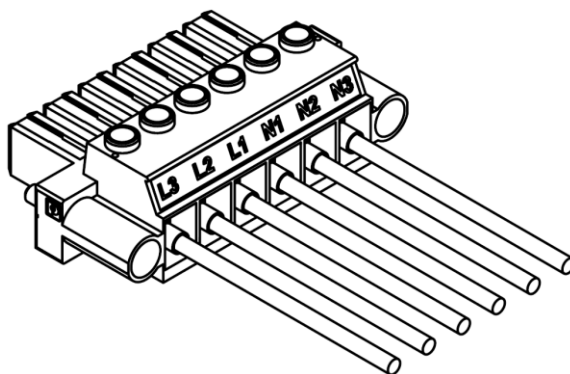

Figure 7-24: Inserting the Sense Wires
5. Insert the wires into the terminals as shown in **Figure 7-24** and tighten the terminal screws securely using a tightening torque of 6.2-7.1 lbf-inch (0.7-0.8Nm).